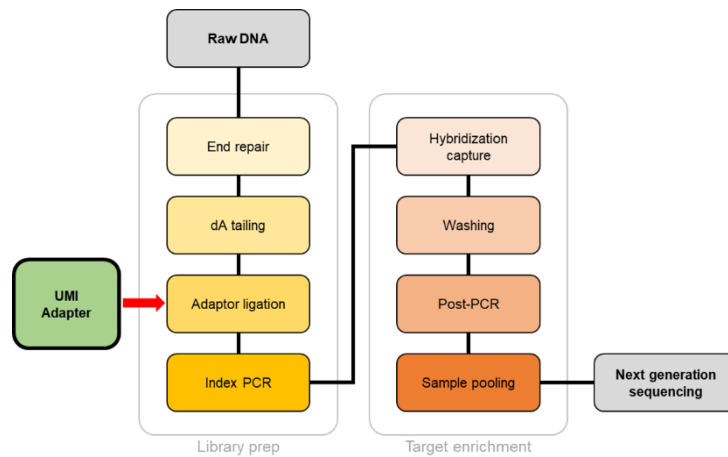

Figure 4. NGS workflow using UMI
- No additional reagents or experiment steps needed to introduce UMI Analysis System as below Figure 4.